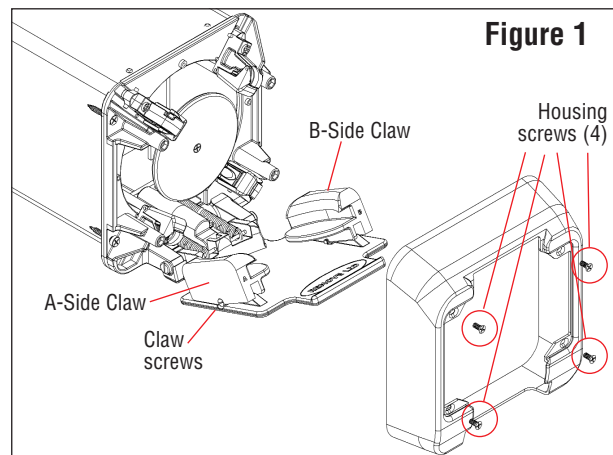

Figure 2
3. Remove the “housing” by pulling forward and allow the housing to flex around the side edges of the open door (figure 2).